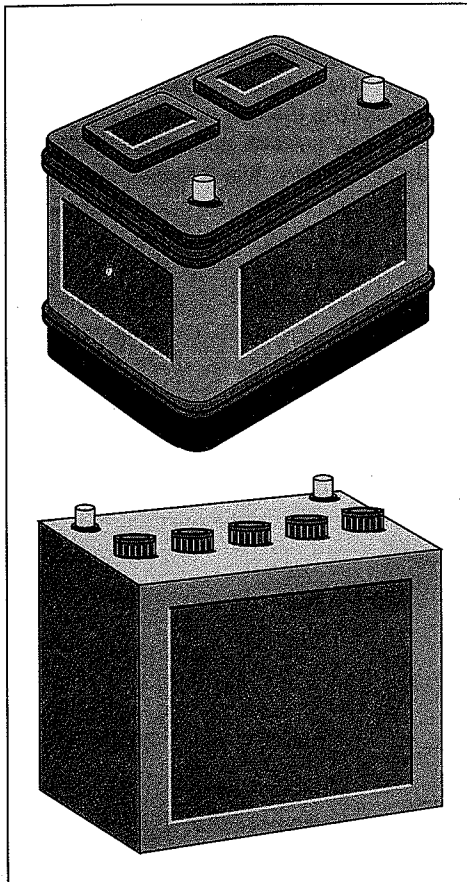

Figure 3-5:
- 1. If you have a battery with removable caps or bars on top, remove them. (See Figure 3-5.)**